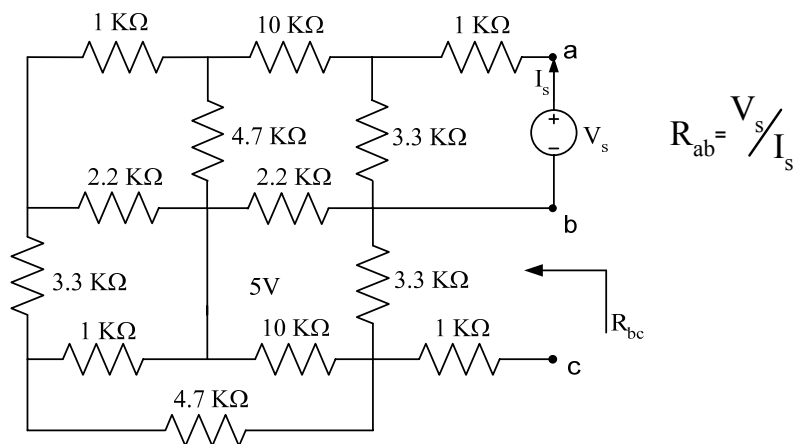

Figure 7.3: Resistance measurement using V_S/I_S method
2. Now to measure the resistance R_{ab} , insert a voltage source V_S (take $V_S = 5V$) between terminals a and b as shown in Figure 7.3.